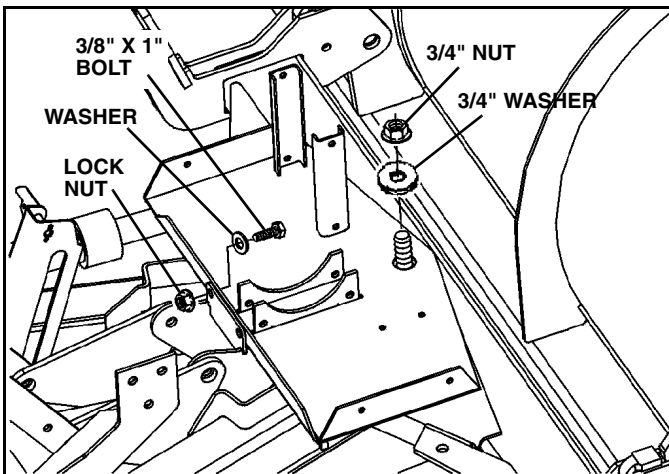

Figure 1-12
25. Remove 3/4" nut and washer from swing pin, slide pump platform over swing pin and replace nut and washer. (See Figure 1-12).
27. Install 3/8" x 1" bolts, washers and self-locking nuts through holes in back of pump platform and into bracket on A-frame. (See Figure 1-12).